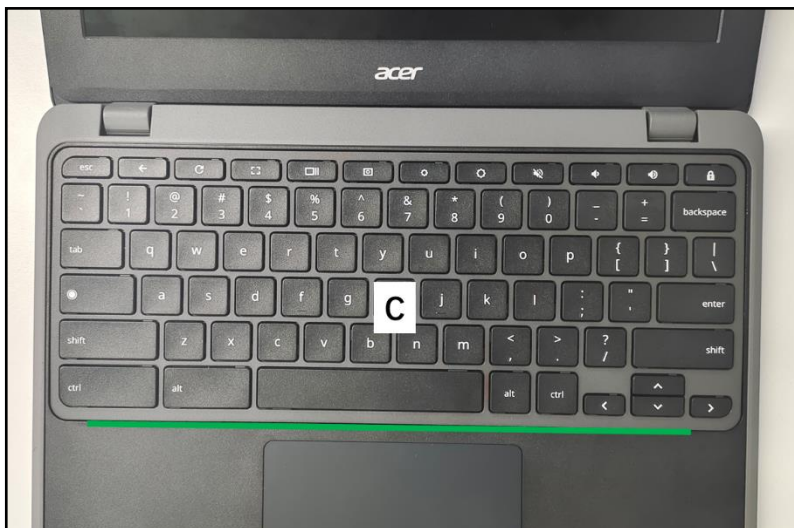

Figure 3-106. Replacing the Keyboard
3. Insert the bottom side latches of the keyboard (C) into the slots on the top assembly (Figure 3-106).